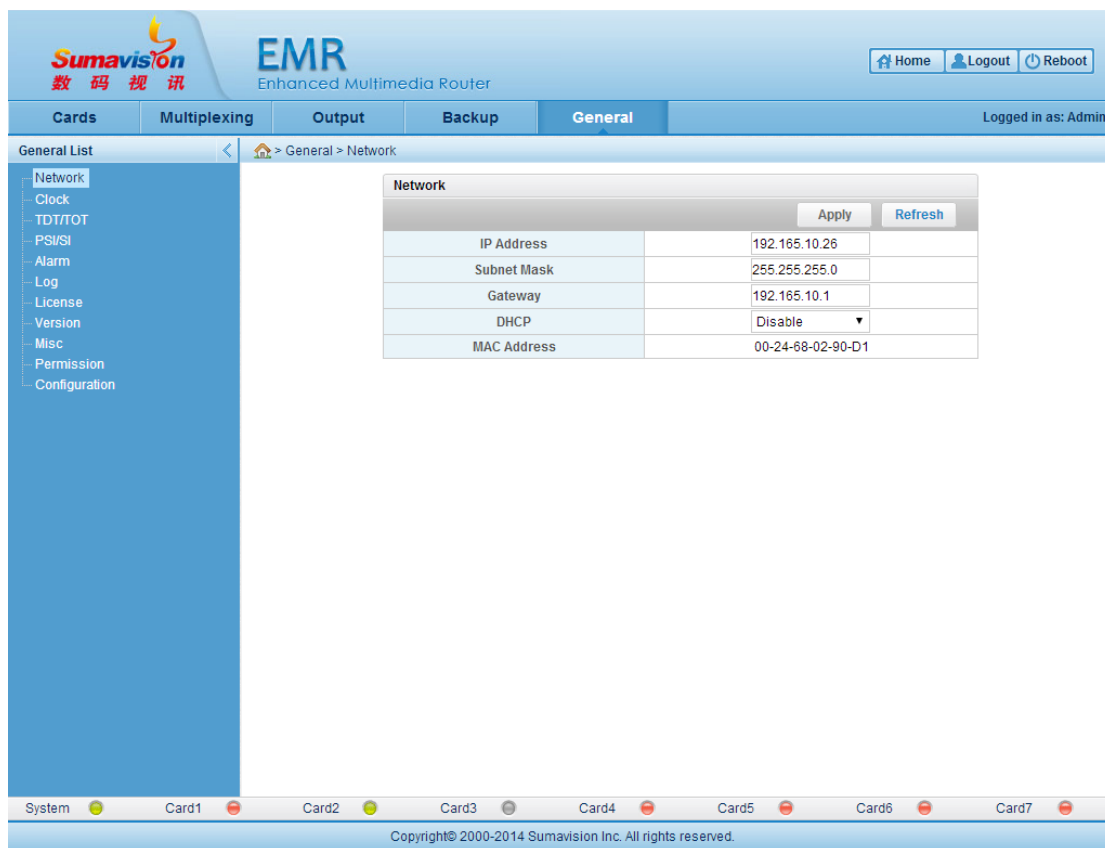

Fig. 5-3 WEB Management Network Configuration
- Network: set IP address, gateway address, subnet mask and other network functions. Click “Apply” to complete the setting, as shown in Fig. 5-3 WEB Management Network Configuration.